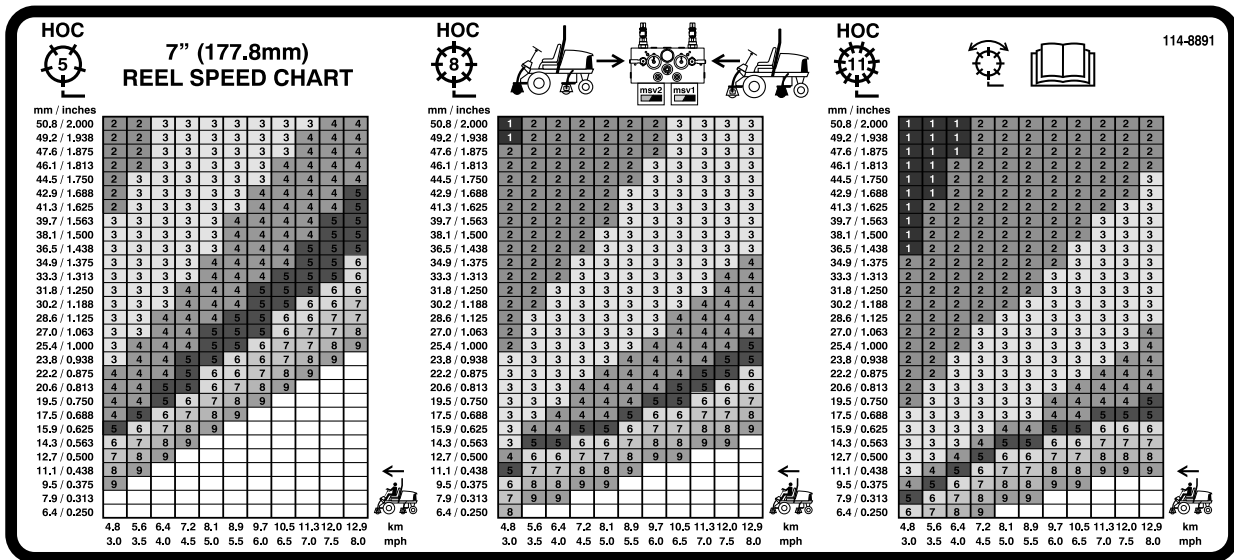

Figure 40
3. Using the appropriate graph on decal 110-0996 (Figure 40) for Reelmaster 5510 & 5610, 7 inch reel cutting units or decal 110-8923 (Figure 41) for Reelmaster 5210 & 5410, 5 inch reel cutting units determine the proper reel speed setting.